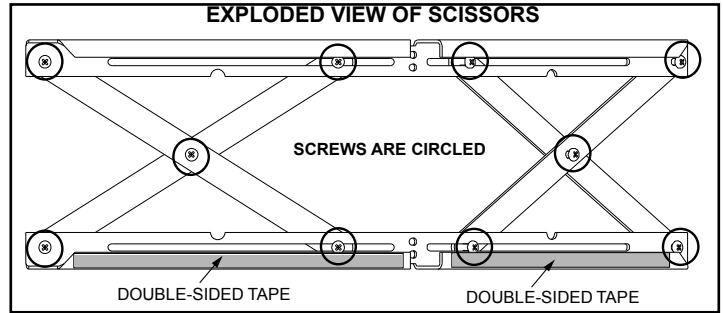

Figure 22.1
1. The 10 screws on each set of scissors will already be loose when shipped. **Figure 22.1.**